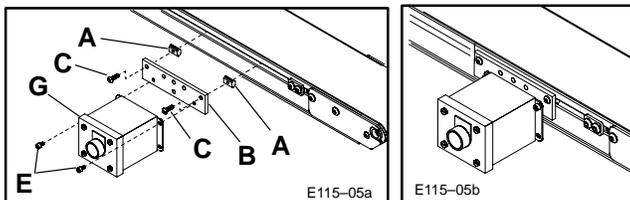

Figure 5: Jog Horizontal Mounting to Conveyor T-slot
- a. Refer to Figure 5 and disassemble and re-attach Pushbutton Box assembly to the Mounting Plate and Mounting Brackets in the manner shown.
- c. Then, refer to Figure 5 and attach assembly to the two Single Drop-in T-bars, using the M6 x 16 mm Button Head Cap Screws. Tighten Screws with 4 mm Hex Key Wrench provided.